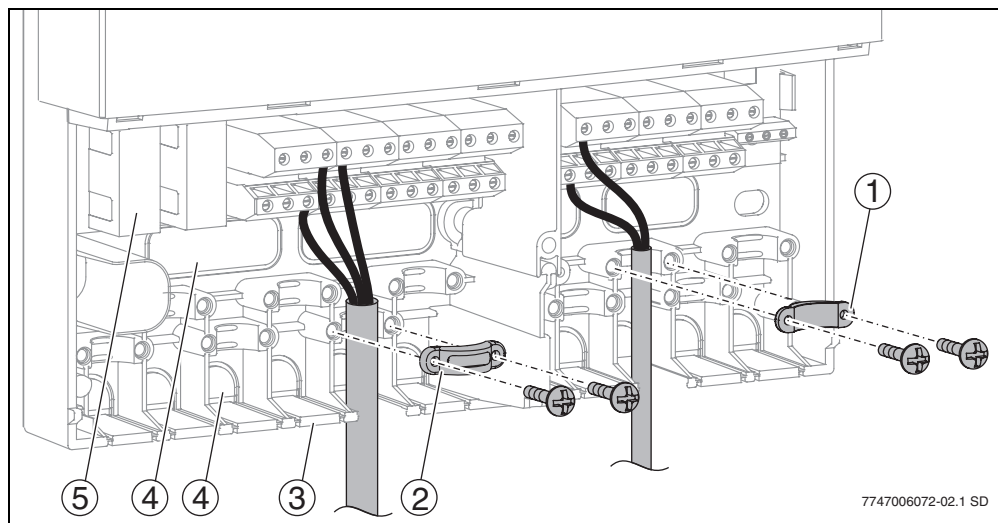

Fig. 12 Feeding in and securing cables
Depending on the fitting situation, the cables can be fed into the casing from behind (→ Fig. 12, Item 4) or from below (→ Fig. 12, Item 3).
- ▶ To avoid sharp edges, cut out the cable entries with a knife (→ Fig. 12).
- ▶ Secure cables with the appropriate cable grips (→ Fig. 12, Item 2). The cable grip can also be fitted with the concave side facing out (→ Fig. 12, Item 1).